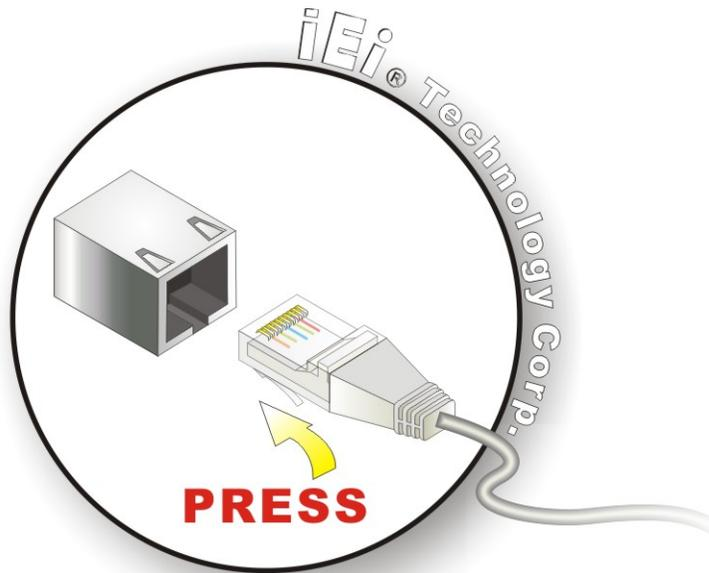

Figure 4-34: LAN Connection
Step 2: Align the connectors. Align the RJ-45 connector on the LAN cable with one of the RJ-45 connectors on the bottom panel of the PPC-37xx-N270. See **Figure 4-34**.